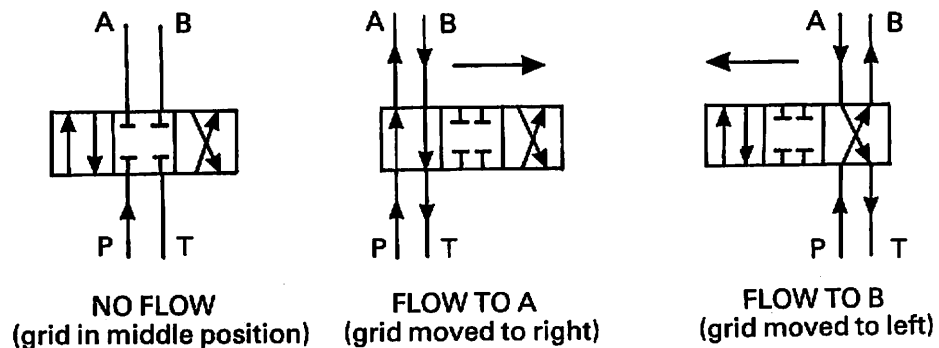

Figure 52.
- The action of **directional control valves** is best understood by imagining that the 'grid' moves across into different positions as shown in Figure 52. This particular figure shows a 'three position valve' which means that the valve can be moved into any **one** of the three positions. If two bars (lines) are added to the valve it means that the valve can take up **any** position between the two limits of movement.